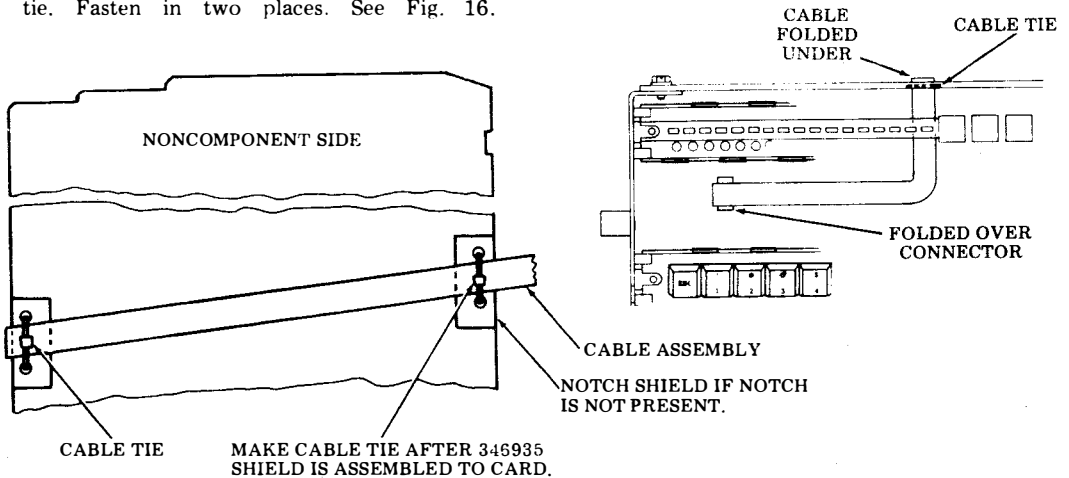

Fig. 16--Cable Replacement
- (i) In reassembly, insert new cable connector into circuit card holes and press into place. Route cable as shown in Fig. 16. Hold cable connector in place and resolder.
- (j) Fold cable under circuit card then fasten cable to card using locally furnished cable tie. Fasten in two places. See Fig. 16.